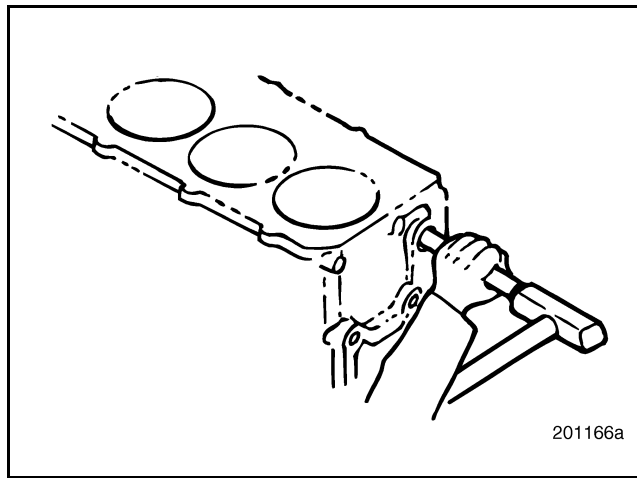

Figure 131 — Cylinder Block Cup Plug Installation
2. Using a proper driver, align the plug in the hole and drive it inward until the outer lip of the plug is flush with the cylinder block. Refer to Figure 131.